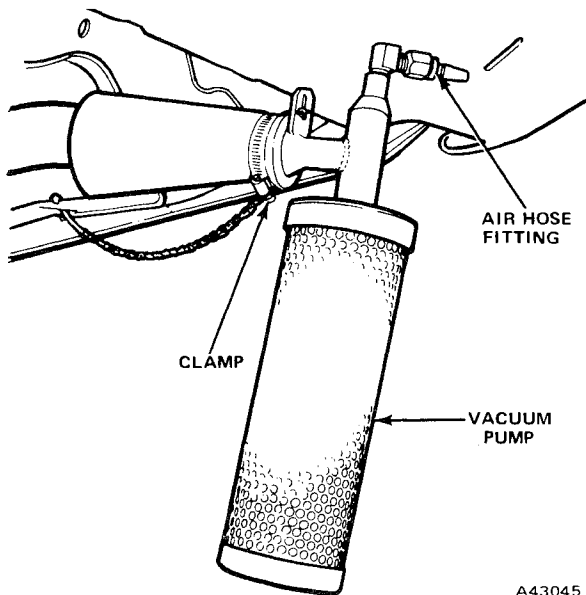

Fig. 1K-18 Vacuum Pump
- (3) Connect shop air (80 psi minimum) to fitting on vacuum pump.
- (4) Remove plug from bottom of converter.
- (5) Position Vibrator Tool J-25077 on converter and lock in place (fig. 1K-19).